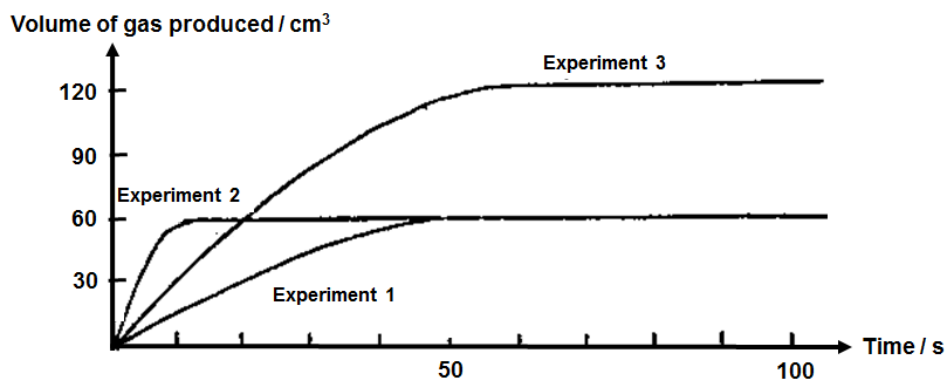

Fig 6.1
- A6** Fig 6.1 shows the results of experiments involving the reaction of calcium and excess water, carried out under different conditions.
- (c)** Another experiment was carried out and the results are shown as experiment 3 in the Fig 6.1. Explain what is the likely experimental condition in experiment 3 as compared to experiment 1?